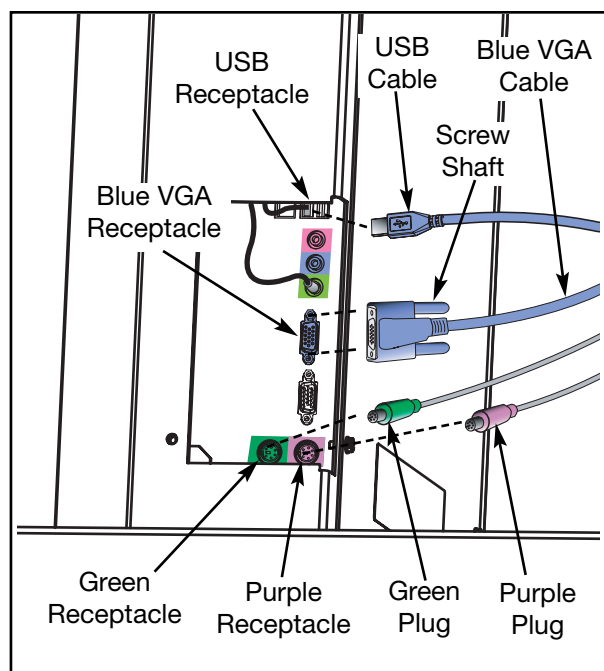

Figure 9
F. Insert the green plug into the green receptacle and the purple plug into the purple receptacle. See Figure 9.
A. Insert the projector's blue VGA cable into the blue receptacle in the CPU. See Figure 9.
B. Secure the projector's blue VGA cable to the CPU by turning the two screw shafts located on the blue VGA cable. See Figure 9.
C. Insert the USB cable (if included) into the USB receptacle. See Figure 9.